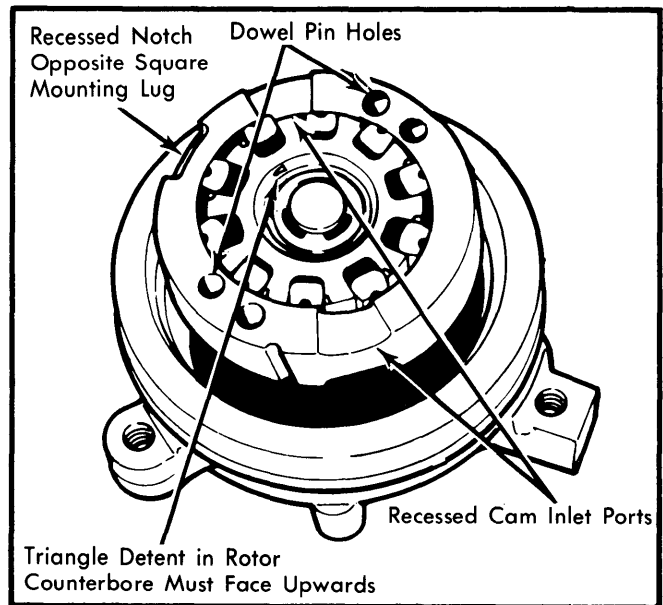

Fig. 4 Assembling Cam and Rotating Assembly
**Reassembly** — 1) If rotating group was disassembled, place rotor on shaft with triangle detent (See Fig. 4) facing upwards and install retaining ring at end of shaft. Place insert cam over rotor with recessed notch on cam facing upwards.
5) Install rotating assembly over dowel pins into housing. (See Fig. 4)